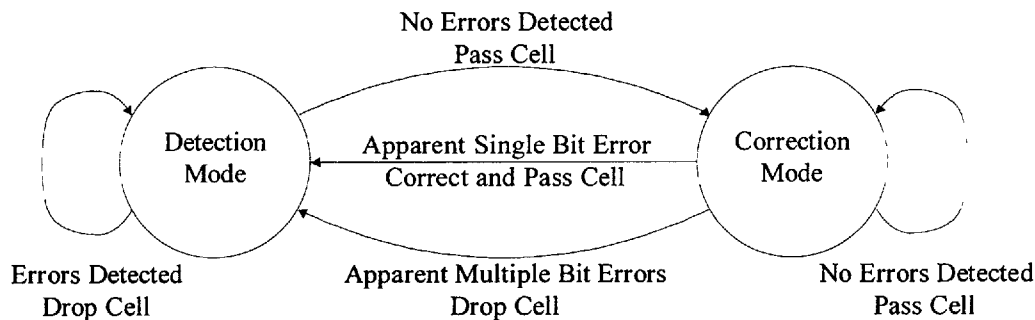

Figure 52. HEC Correction State Machine
- 0 - Allows the receive ATM mapper to correct single bit errors in accordance with ITU Recommendation I.432 (refer to "Appendix B. References" on page 123). The receiver mapper corrects headers with single bit errors, and detects headers with multiple bit errors in Correction Mode. It detects all header errors in Detection Mode. It switches from Correction Mode to Detection Mode when it detects an error. It switches from Detection Mode to Correction Mode when it detects a valid HEC (see Figure 52).